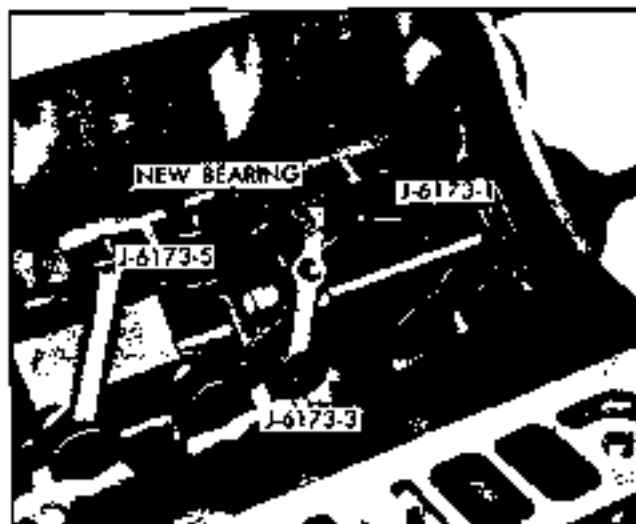

Fig. 6-100 Installing Camshaft Bearing
5. Position replace adapter J 6173-3, with bearing in position against shoulder, against rear of hole in which bearing is to be installed (Fig. 6-100). Index mark on shoulder of replacer must point down (toward crankshaft side) to properly position bearing.
7. Slip key J 6173-5 into notches in shaft behind replacer adapter J 6173-3 and tighten nut to start bearing into hole (Fig. 6-100). Continue to tighten nut until bearing has been pulled completely into its hole. When properly positioned, it will be approximately flush with both sides of the transverse member.